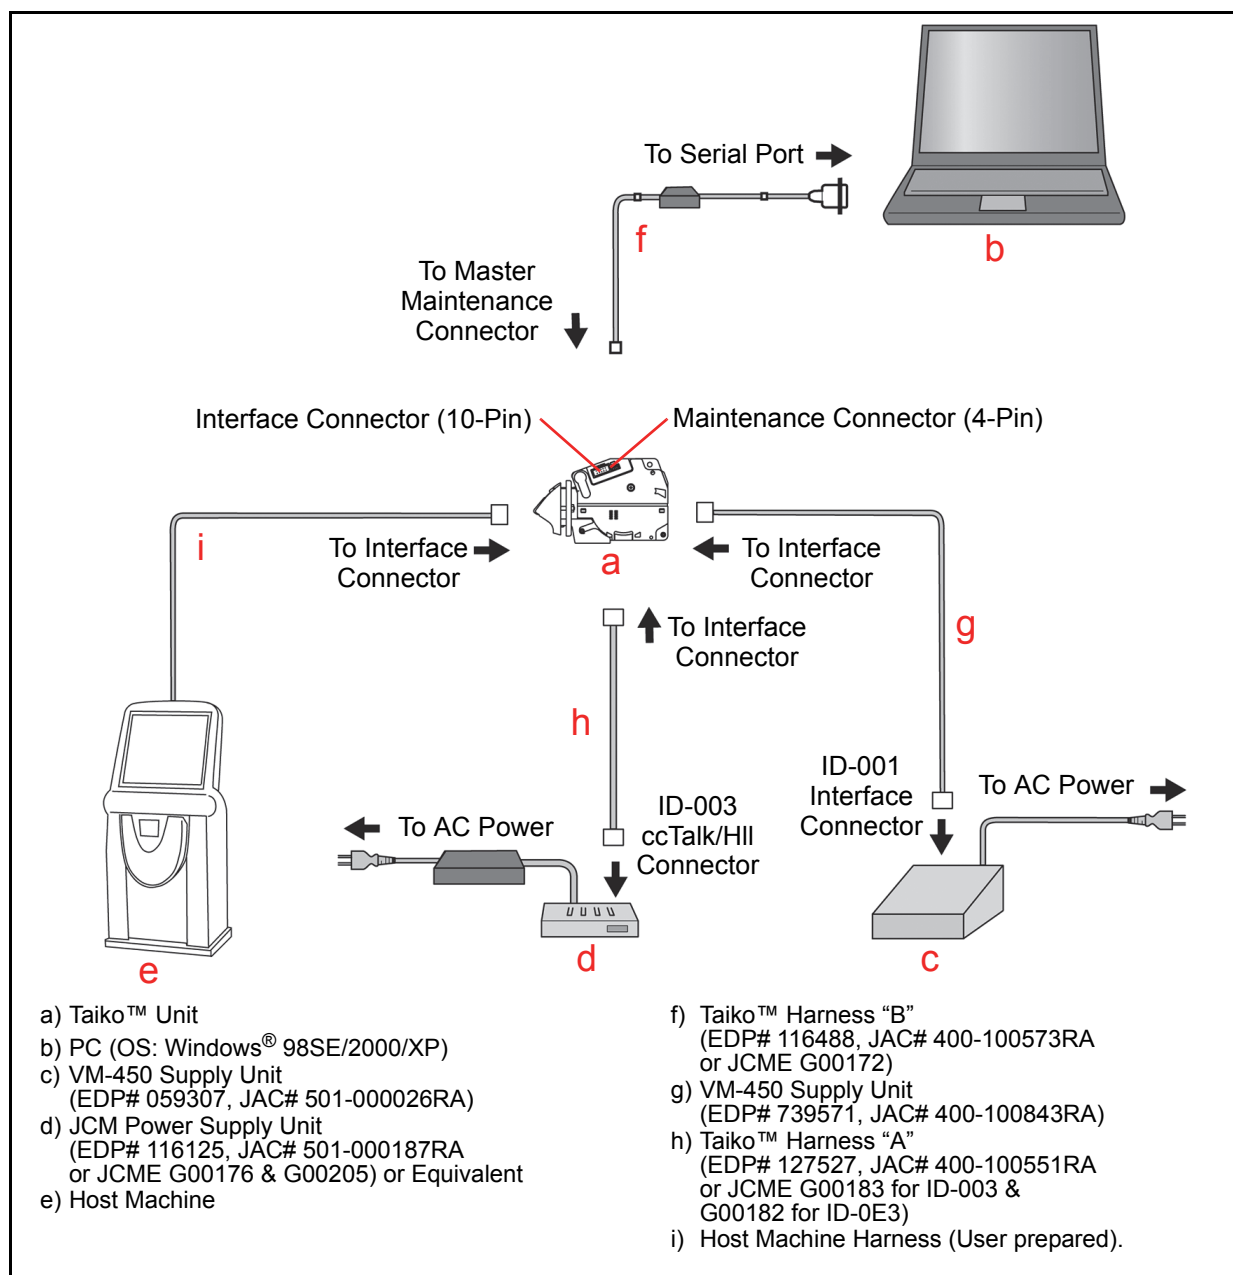

Figure 6-8 Taiko Re-Programming Software Tool Connection Configuration
1. Refer to the previous "Software Downloading Procedure" on page 6-2 of this Section to properly perform a PC Software Download, and to Figure 6-8 on page 6-4 to identify the tools, harness connections and DIP Switch Settings required to transfer Software to the Taiko™ Unit. When downloading Software Files from a Palm Pilot® handheld PDA, refer to the related procedures outlined in "Palm Pilot Program Installation" on page 6-2 of this Section.
2. Double Mouse-Click on `SerialNo.exe` in the Folder created in Step One (1) of "PC Program Installation" on page 6-2, and then the following window will appear.